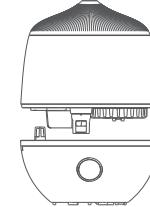

Fig.3
- 3) Put back the water tank. Be careful to hold it steadily and put it in place. Then put back the mist outlet cover (see Fig.3);